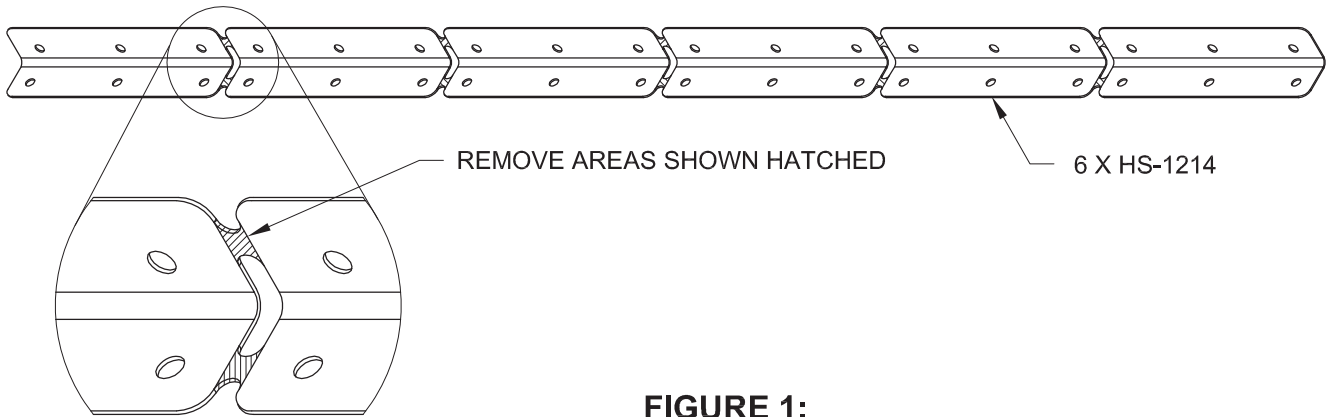

FIGURE 1:
Step 1: Separate the HS-1214 Rib Clips by removing the material shown hatched in Figure 1.